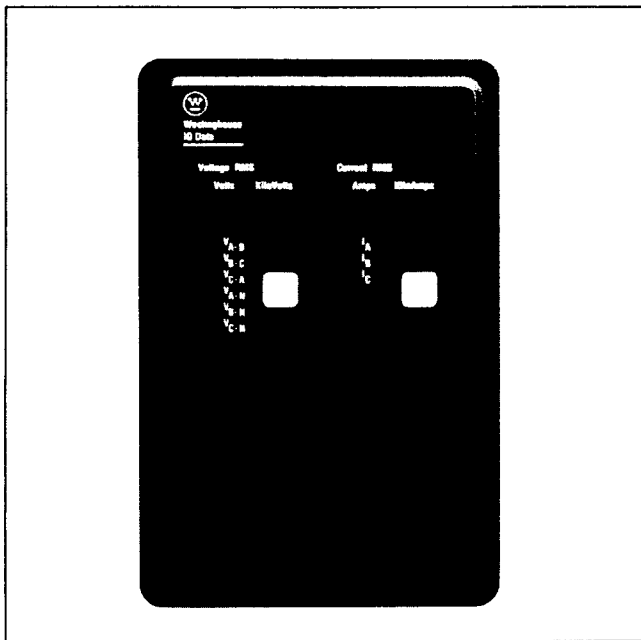

Figure 1.1 — IQ Data
**1.0 General** — The IQ Data is a microprocessor-based, self-contained, door-mounted device designed to both monitor and display electrical parameters. (See Figure 1.1)